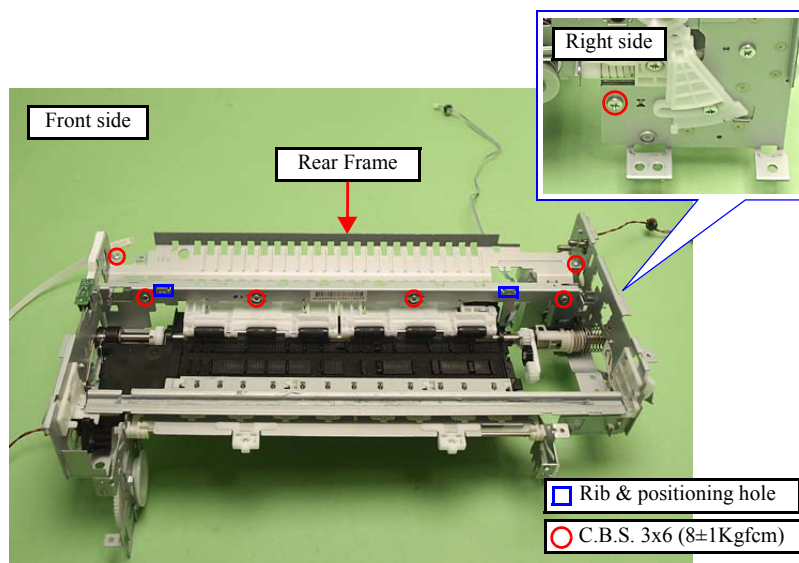

Figure 4-145. Removing the Rear Frame (2)
4. Remove the screws (x5) that secure the Rear Frame and the screws (x2) that secure the CR Motor Holder, and remove the Rear Frame together with the CR Motor Holder. (See Fig. 4-127, Fig. 4-145.)
- Align the ribs (x2) of the Rear Frame with the positioning holes (x2) of the Main Frame. (See Fig. 4-145.)